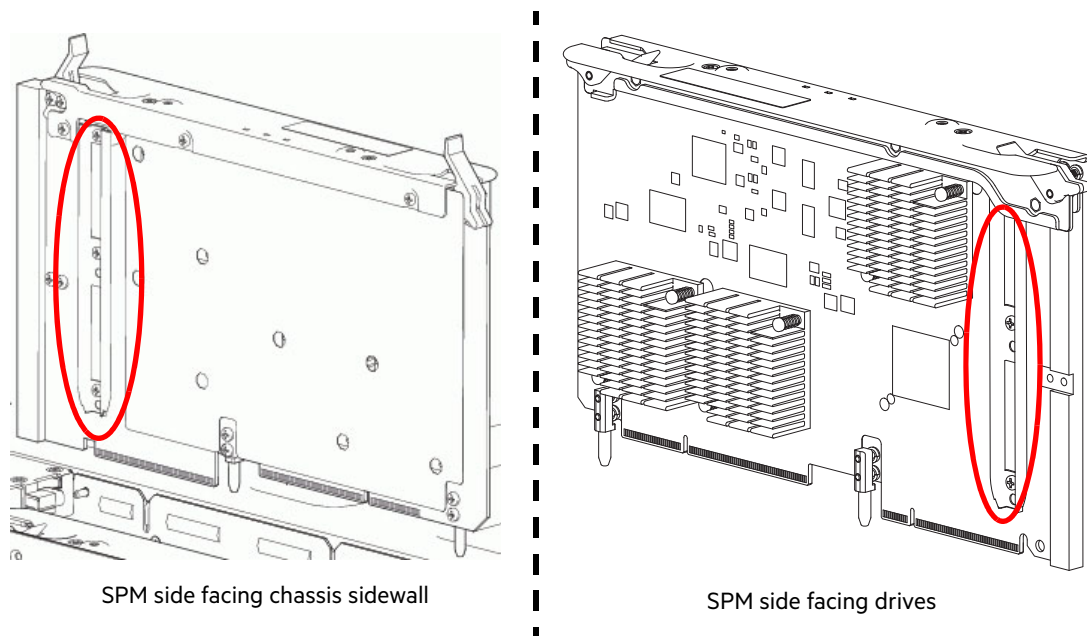

Figure 82 Guiding slots present on the inner and outer side of a Storage personality module
2. Keeping the Storage personality module vertically straight position, insert the guiding slot (inner/outer) into the chassis wall-support and gently press down the module down until it seats firmly in its slots. Refer Figure 82.